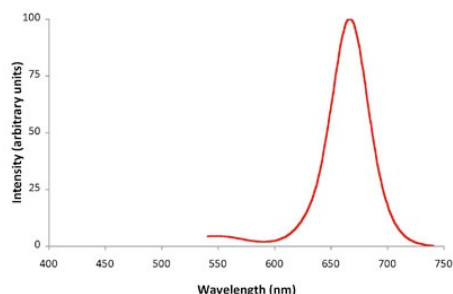
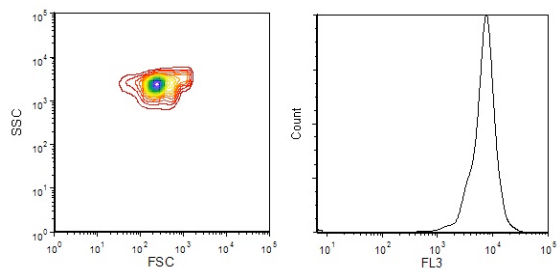

Figure 1. Emission spectrum of Zepto™ Ultra Express Red Microspheres.
Figure 2. FSC-SSC plot and fluorescence histogram in the APC channel of Zepto™ Ultra Express Red Microspheres on a flow cytometer.
The emission spectrum is illustrated in Figure 1. They are a suitable for a wide range of fluorescent assays such as flow cytometry-based assays. Their Forward Scatter (FSC) vs. Side Scatter (SSC) plot and fluorescence histogram in the APC channel (405nm, 488nm, 633nm excitation; 670nm emission) on a typical flow cytometer are illustrated in Figure 2.
1. Gate on the single population of microspheres on FSC vs. SSC plot (refer to Figure 2)